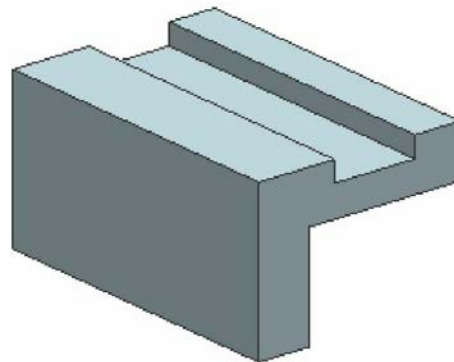

Figure 5-62 Base feature of the model
5. Choose the **OK** button from the **Extrude** dialog box to create the base feature. Turn off the display of the sketch. The base feature of the model is shown in Figure 5-62.